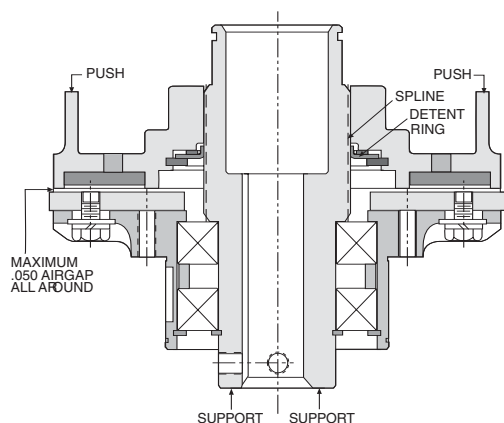

Figure 6
23. Install the rotor assembly onto the hub (Item 6) making sure that the spline teeth are aligned. When the Autogap detent ring (item 8-3) contacts the spline outside diameter, press **by hand** evenly on the rotor until the friction disc contacts the armature. Release pressure. Support as shown. The rotor will spring back approximately .050". The Autogap is now set. When the hub is rotated by hand, the armature and the friction disc must not touch. (See Figure 6)